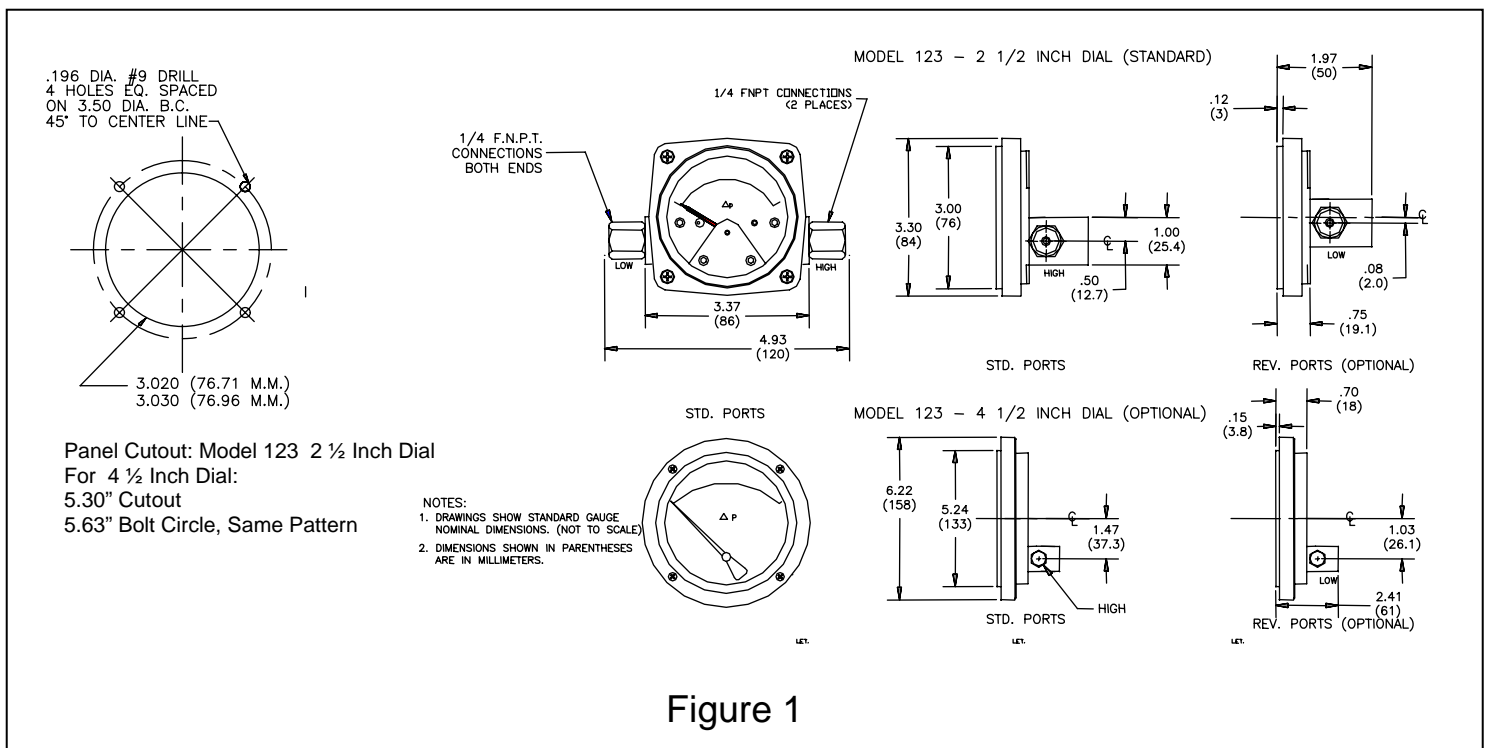

Figure 1
Gauges with 2-1/2" dials can only be mounted through the **rear** of the panel. Make the proper panel cutout as indicated in (Fig .1). Remove the (4) bezel screws. Insert the gauge front through the rear of the panel and reinstall the bezel screws through the front of the panel and into the gauge bezel. Tighten the screws securely, alternating in a **diagonal** pattern.
Gauges with 4-1/2" dial should be mounted from the **front** of the panel. Make the cutout as indicated in (Fig. 1). Insert the (4) panel mounting studs, finger tight, into the metal inserts located in the rear of the bezel. Insert the gauge through the panel, aligning the panel mounting studs with the holes in the panel. Install the (4) #8-32 nuts onto the studs and tighten securely.
The SPDT switch ('A' or "H" Electrical Option) lead colors and associated functionality at '0' PSID is shown in Figure 1. SPST switches ('E', 'F', or 'G' Electrical Options) may be normally closed or normally open at '0' PSID dependent upon the option specified on the purchase order.